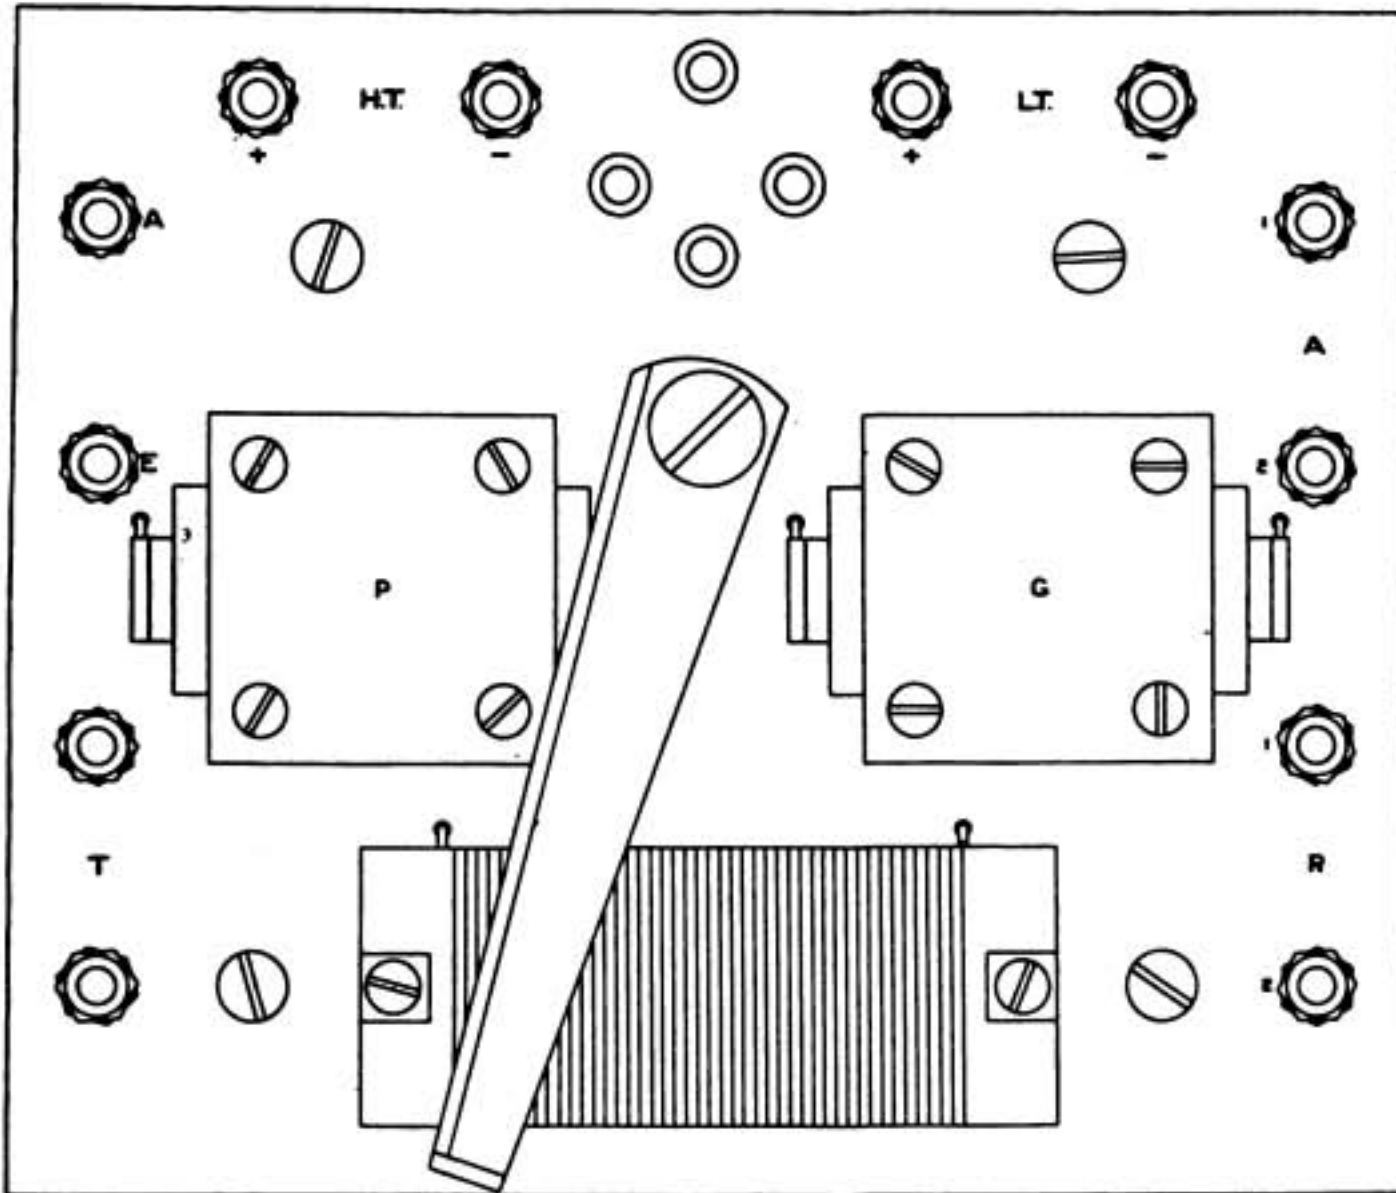

Fig. 1. The valve panel (top) drawn to full size.
**T**HE complete panel is shown in Figs. 1 and 2. Fig. 1 represents the top and Fig. 2 is a view of the under side when the instrument is turned over. Both drawings are exact full size.
The next step is to make the two condenser covers, marked G and P in Fig. 1. These are exactly square, and measure  $1\frac{1}{4}$  ins. each way. They are made from the spare end piece and by the methods already described. Holes are put through their four corners to give clearance for No. 6 BA screws, and a No. 28 or  $7/64$  in. drill will make a suitable hole. No countersinking is necessary as round-headed screws are used.
The resistance arm is made from a piece of hard brass of thickness of about 20 S.W.G., and is shaped as shown in Fig. 1. One edge of the brass is turned up to a height of  $\frac{1}{4}$  in. to give stiffness. The end is also turned up, giving a projection of  $\frac{1}{4}$  in. to act